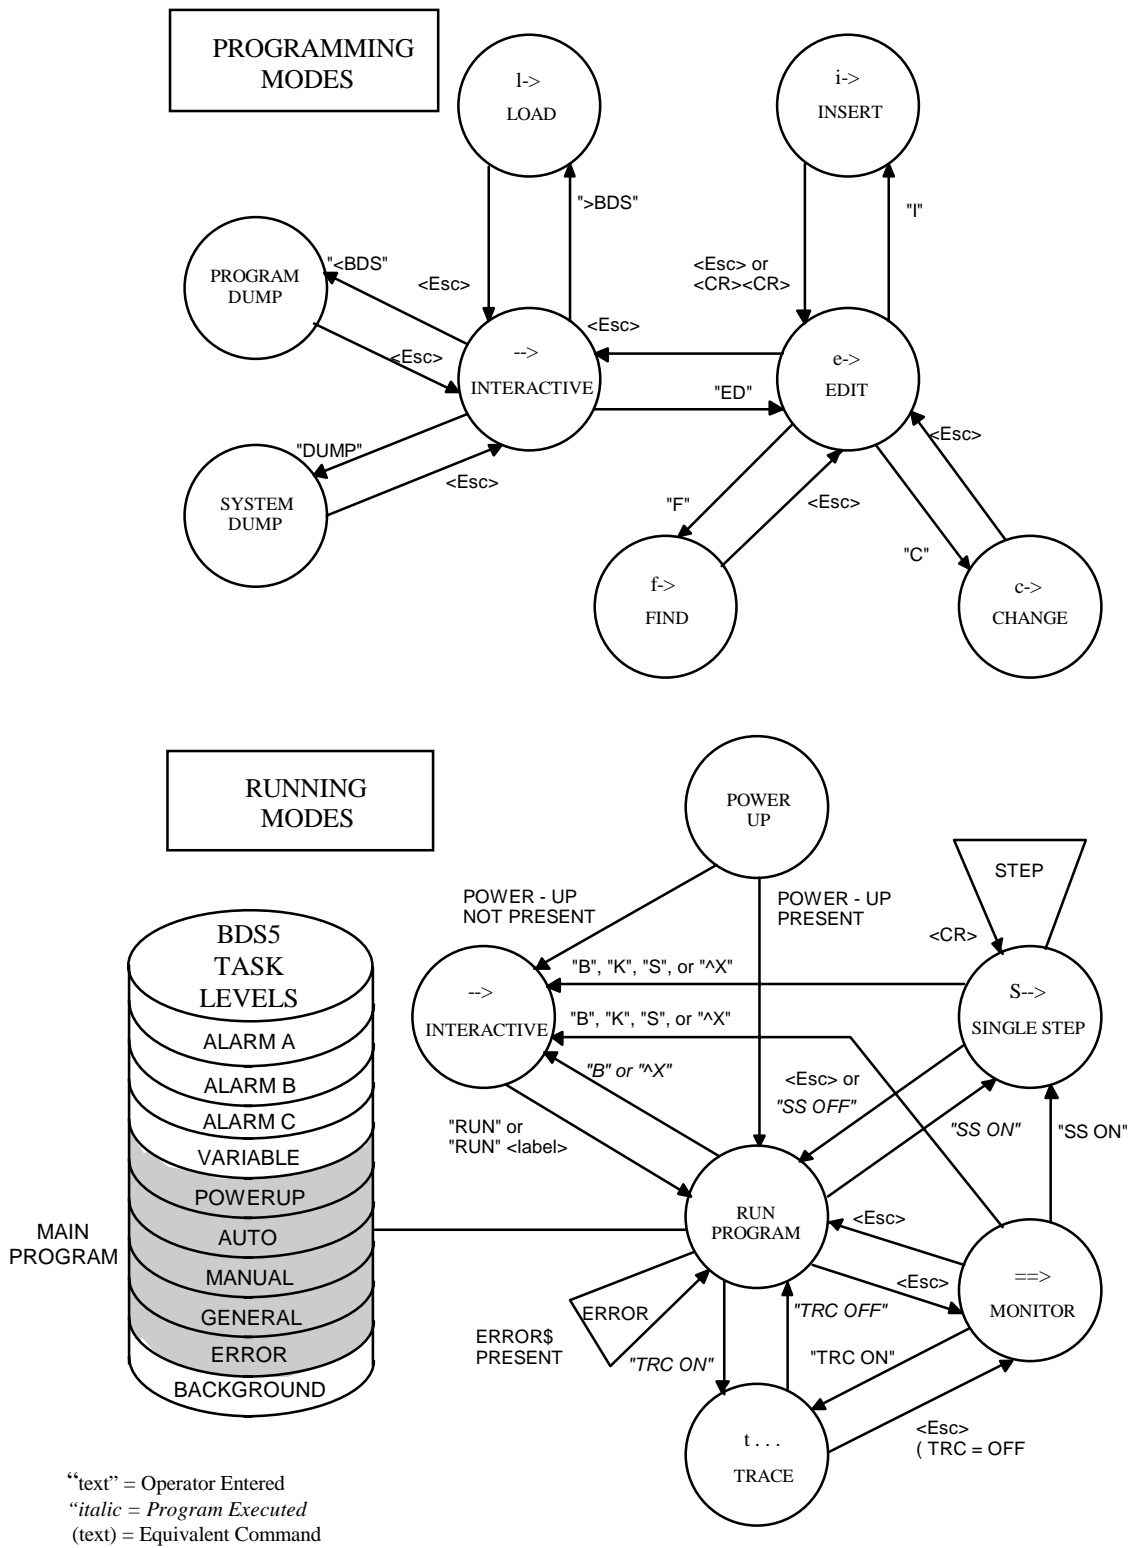

Figure 2.2. BDS5 State Table
Refer to Figure 2.2. There are many ways to enter the Interactive mode. First, if the power-up label (POWER-UP\$) is not present, the BDS5 will power-up in the Interactive mode. The BREAK (B) command and errors that break program execution cause the BDS5 to exit the Run mode and enter the Interactive mode.
The following section describes each of the modes of operation. Refer Figure 2.2 which is a diagram
Refer to Figure 2.2. After autobauding, the Run mode is normally entered from either the Interactive mode, the RUN command, or from multi-tasking. If the power-up label (POWER-UP\$) is present, the BDS5 will start running your program at that label on power-up. Also, the BDS5 will exit the Run mode to the Monitor mode if the escape key is pressed.
The other modes shown in Figure 2.2 include the Edit modes (Edit, Insert, Change, and Find) and the communication modes (Program Load, Program Dump, and System Dump). These modes are covered in later chapters.